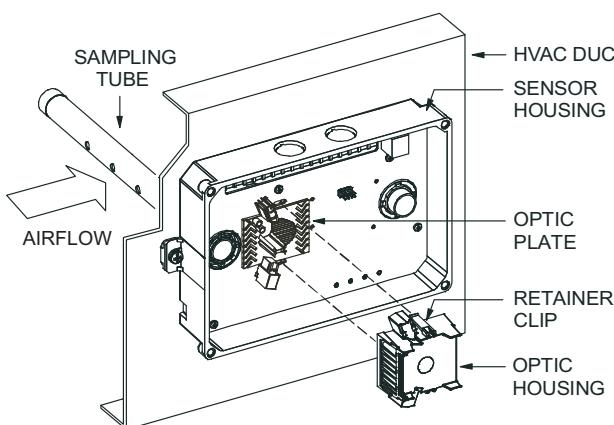

Fig. 25 — Sensor Cleaning Diagram
1. Disconnect power from the duct detector then remove the sensor's cover. (See Fig. 25.)